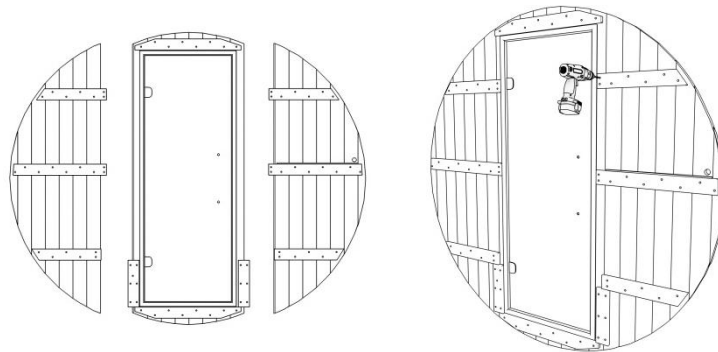

figure 6a
- A. First, locate the three pieces that make up the front wall panel. Use the provided screws to attach the three front wall pieces together. See figure 6a.